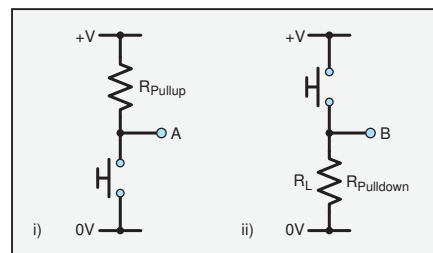

Fig.6. Two different ways to connect a button to a digital input pin: i) active low, ii) active high.
A digital input pin allows MMBASIC to be able to monitor a device that is in one of only two states. A switch or button is a great example of a digital input device – it can be either open or closed. Referring to Fig.6 i), this is a typical connection of how we can detect if a button is being pushed or not. When the button is not being pressed, point A will be at +V (regarded as a high logic level) due to the pull-up resistor. However, when the button is pressed, point A is then directly connected to 0V, which is regarded as a low logic level (point A is 'active low'). A resistor value in the region of 10kΩ will ensure that when the button is pressed, then only a small amount of current flows between +V and 0V rather than shorting it out.
Fig.6 ii) is similar to i), but the logic levels are now working in reverse. Point B is at a low logic level when the button is not being pressed (thanks to the pull-down resistor), and at a high logic level when the button is pressed (point B is 'active high').
To demonstrate the above, build the circuit shown in Fig.6 i) and use it to control the flashing LED program from the previous section. You need a button or switch, and a resistor with a value between 470Ω and 100kΩ. If you don't have a button or switch, then simply use two jumper wires and you can touch them together to simulate a button press. Use a breadboard, a small piece of stripboard, or even just the leads of the resistor to assemble the circuit shown in Fig.6 i). Connect the +V side of the pull-up resistor to the middle 4-way socket row, J8 (this is at a 3V3 level). Connect one side of the button to 0V (J7, the left hand 4-way socket row), and point A to I/O pin 14.
We will now use a feature that demonstrates how you can remove a hardware component simply by modifying the SETPIN command. Refer to Fig.6 i), which is the circuit you have currently working. Thanks to MMBASIC we can now physically remove the pull-up resistor from our circuit and use an additional parameter with the SETPIN command; as follows: SETPIN (14) , DIN, PULLUP